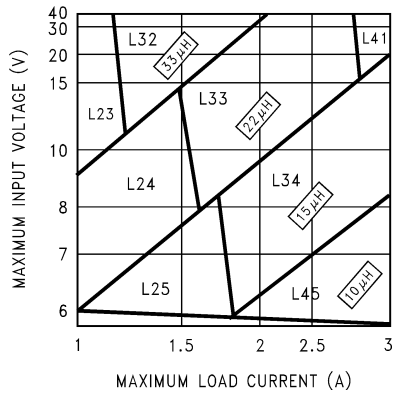
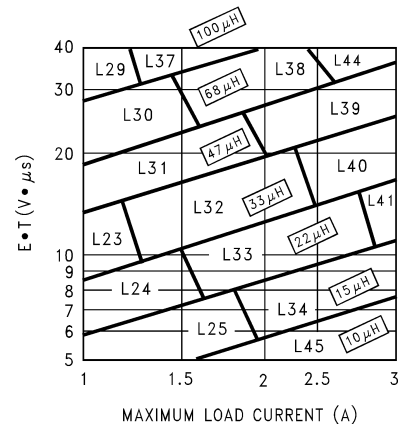

Figure 18. LM2673-3.3
Figure 21. LM2673-ADJ
Step 3: Determine the inductor required by using one of the four nomographs, Figure 18 through Figure 21. Table 1 provides a specific manufacturer and part number for the inductor.
Step 5: Determine an input capacitor from Table 6 and Table 9 for fixed output voltage applications. Use Table 3 or Table 4 to find the specific capacitor type. For adjustable output circuits select a capacitor from Table 3 or Table 4 with a sufficient working voltage (WV) rating greater than $V_{in\ max}$, and an rms current rating greater than one-half the maximum load current (2 or more capacitors in parallel may be required).
Step 3: Use the nomograph for the 3.3V device, Figure 18. The intersection of the 16V horizontal line ($V_{in\ max}$) and the 2.5A vertical line ($I_{load\ max}$) indicates that L33, a 22 μ H inductor, is required.
Step 3: To use the nomograph for the adjustable device, Figure 21, requires a calculation of the inductor Volt•microsecond constant ($E \cdot T$ expressed in $V \cdot \mu S$) from the following formula:
Using Figure 21, the intersection of $27V \cdot \mu S$ horizontally and the 2A vertical line ($I_{load\ max}$) indicates that L38, a 68μH inductor, should be used.
When using the adjustable device in low voltage applications (less than 3V output), if the nomograph, Figure 21, selects an inductance of 22μH or less, Table 12 and Table 13 do not provide an output capacitor solution. With these conditions the number of output capacitors required for stable operation becomes impractical. It is recommended to use either a 33μH or 47μH inductor and the output capacitors from Table 12 or Table 13.